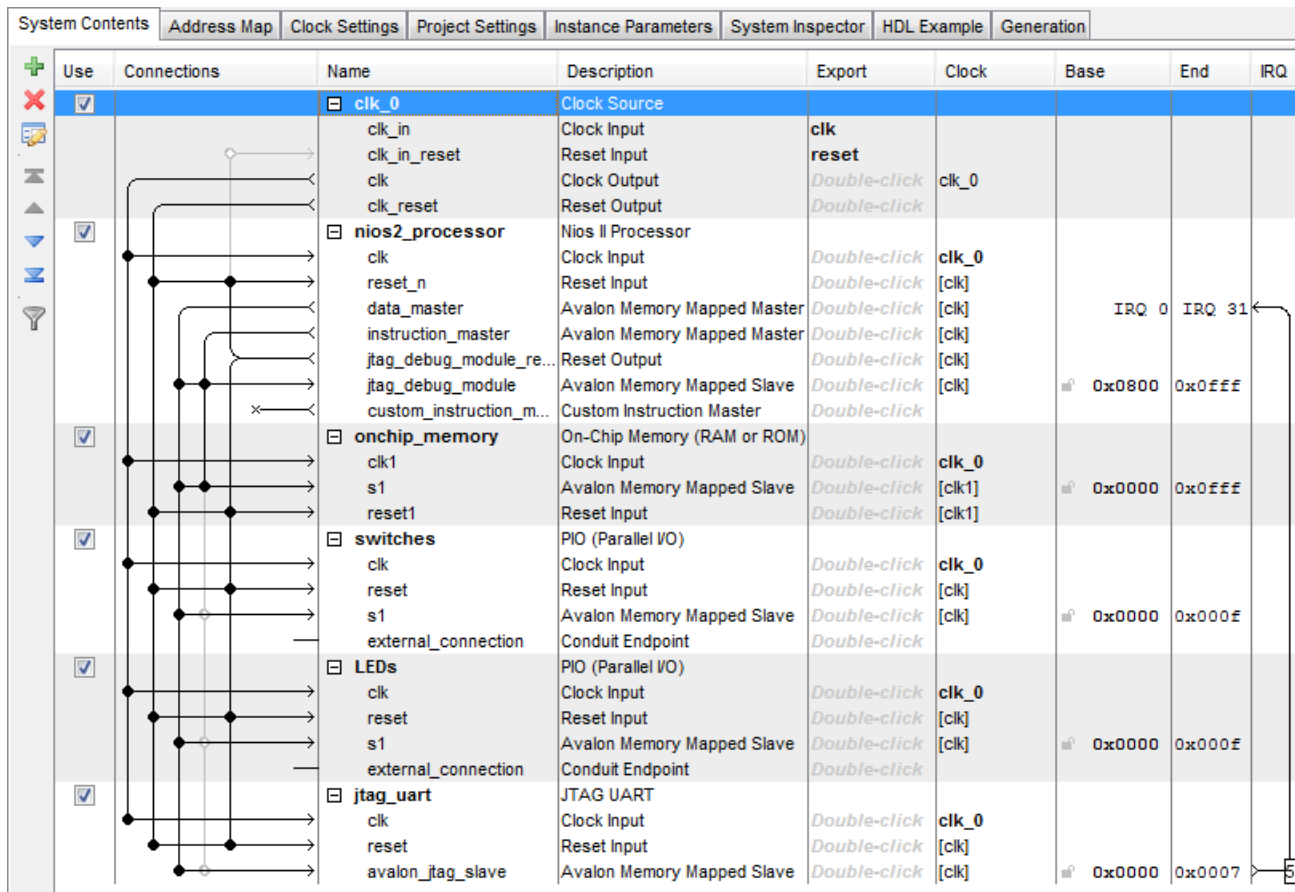

Figure 16. The system with all components appropriately named.
- Note that the Qsys tool automatically chooses names for the various components. The names are not necessarily descriptive enough to be easily associated with the target design, but they can be changed. In Figure 2, we use the names Switches and LEDs for the parallel input and output interfaces, respectively. These names can be used in the implemented system. Right-click on the `pio_0` name and then select **Rename**. Change the name to *switches*. Similarly, change `pio_1` to *LEDs*. Figure 16 shows the system with name changes that we made for all components.